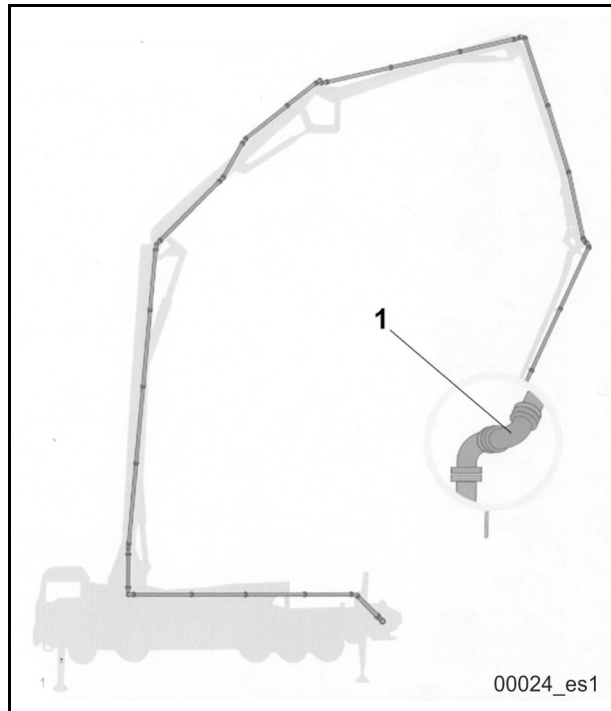

Fig. 352
The impact bend (1) (**Fig. 352**) is the penultimate bend in the boom pumping line.